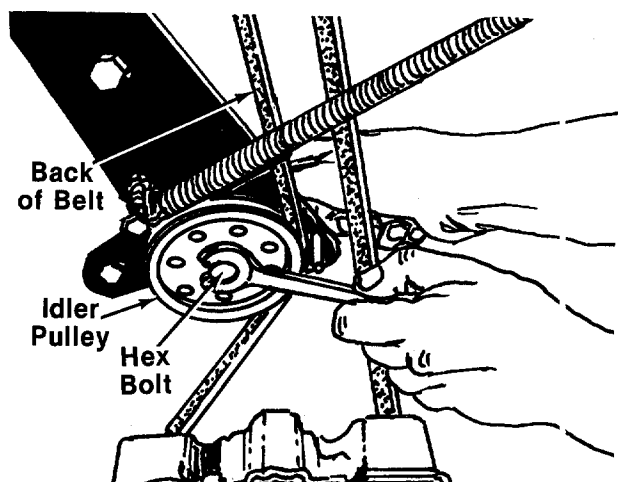

FIGURE 25.
6. Remove the bolt, lock washer and nut which hold the idler pulley to the idler bracket. See figure 25.
The belt must be reassembled as shown in figure 25, with the back of the belt (flat side) against the idler pulley. The belt must be inside the pins. Failure to assemble the belt correctly will damage the belt.